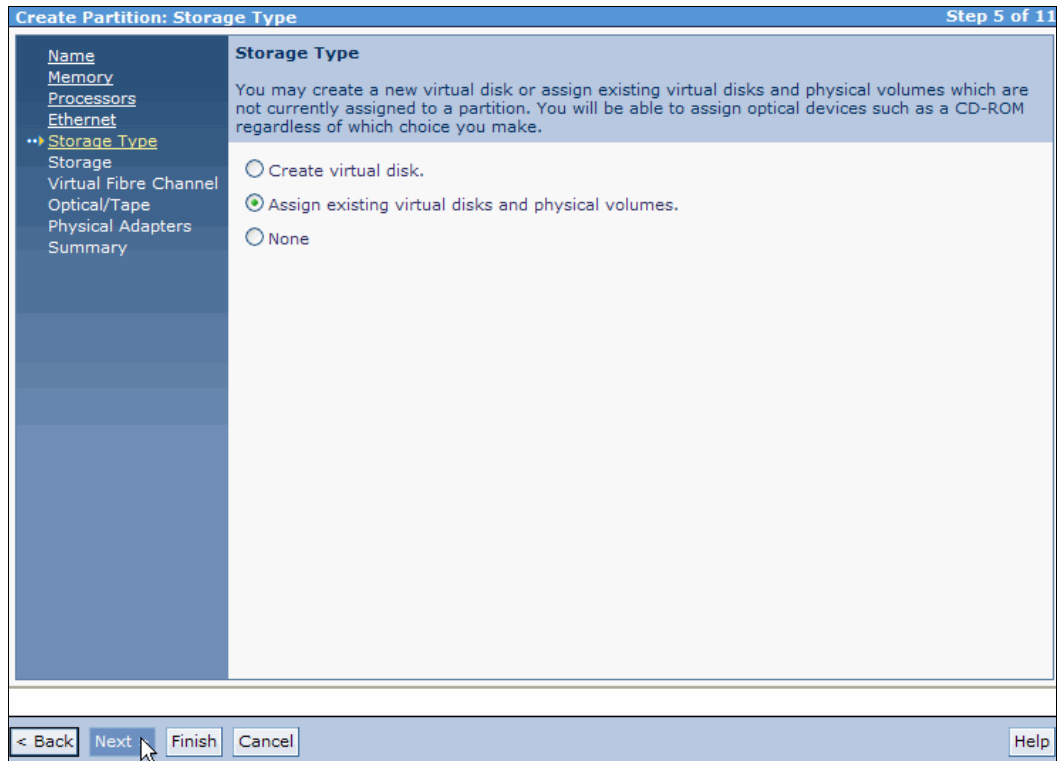

Figure 4-41 Create Partition: Storage Type
6. Select **Assign existing virtual disks and physical volumes**, as shown in Figure 4-41.